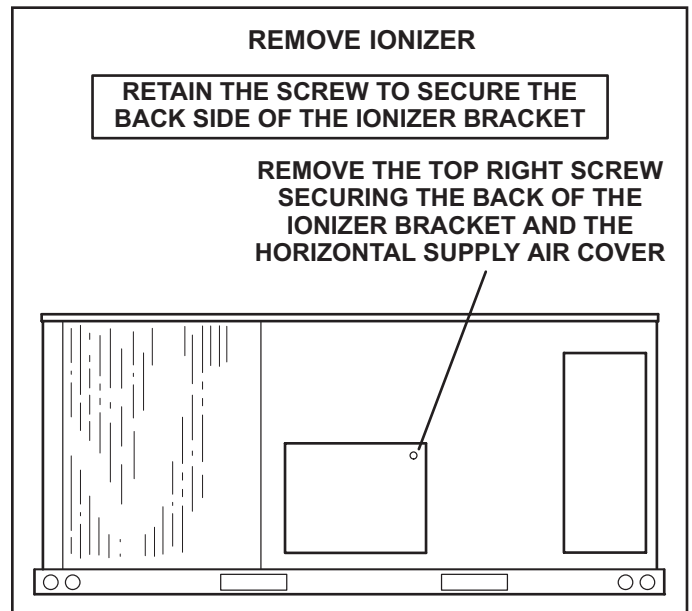

Figure 45
1. On the back side of the unit, remove the screw securing the back of the ionizer bracket. See Figure 45. Retain the screw to secure the back side of the ionizer bracket.